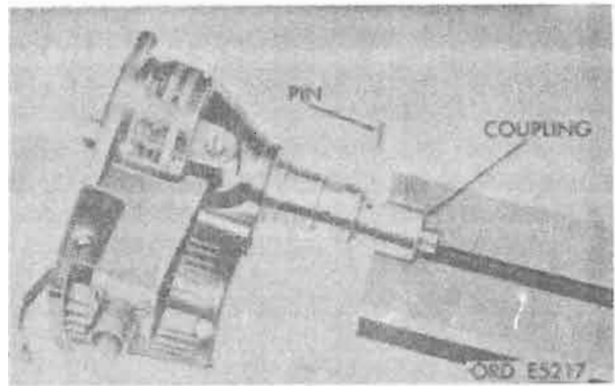

Figure 6-3. Shaft coupling removal.
- a. Remove roll pin with drift and hammer (fig. 6-3).
c. If existing shaft and coupling are to be reinstalled, proceed as follows. If either shaft or coupling are discarded, proceed as indicated in d (1) through (7) below.
(1) Install one thrust washer on shaft, install shaft in housing, and slide second thrust washer into place on shaft.
(2) Slide coupling into distributor shaft and install roll pin with drift and hammer (fig. 6-3).